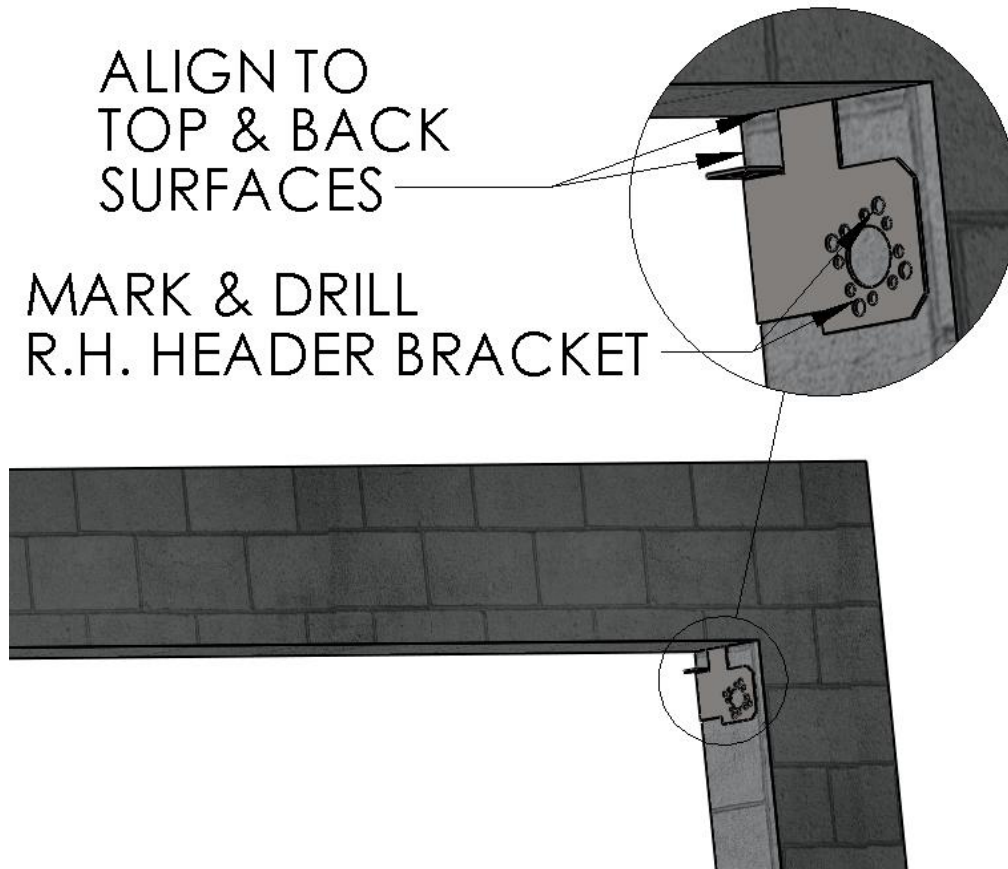

Figure 1 LOCATE R.H.HEADER MOUNTING BRACKET
1. At the upper right of the door opening, use the R.H. Header Mounting Bracket to transfer hole locations to the mounting surface. (Figure 1 LOCATE R.H.HEADER MOUNTING BRACKET)